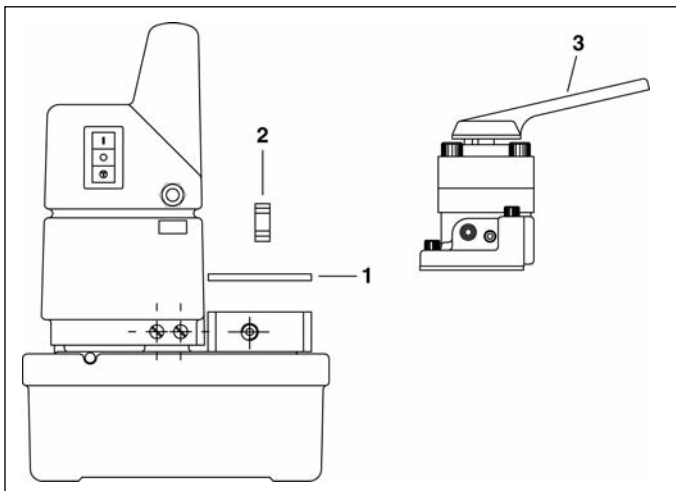

Figure 5
**4.2 Valve Mounting (Figure 5)**